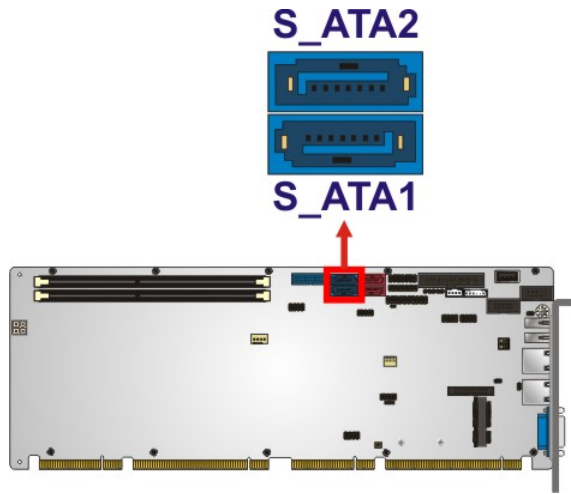

Figure 3-20: SATA 6Gb/s Drive Connector Location
- CN Location:** See Figure 3-20